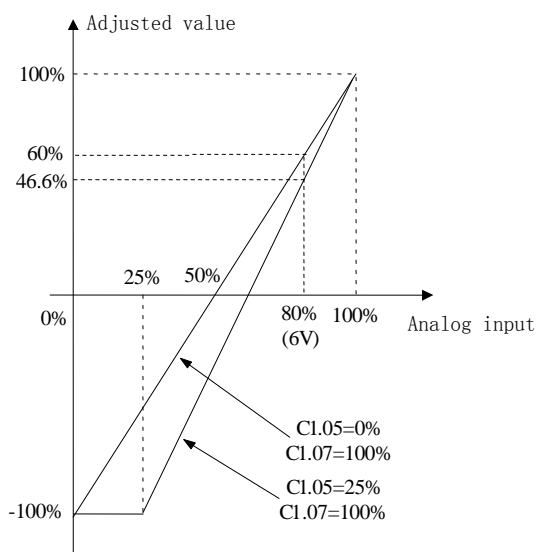

Fig.6-42 Regulation curve of reference
1. Fig.6-42, 0%~100% in X axis is corresponding to analog input -10V~10V, 10V of analog input is corresponding to 100%, and -10V is corresponding to 0%, 6V is corresponding to 80%.